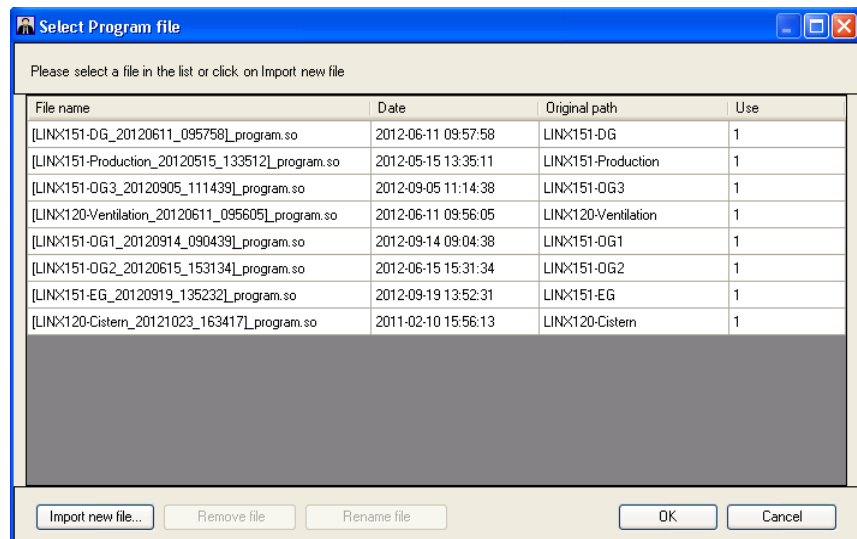

Figure 213: Select Program File Dialog
3. The **Select program** dialog opens as shown in Figure 213. The dialog displays a list of program files available in the LWEB-900 database. If the desired program file is already available in the list, select it and press **OK**.